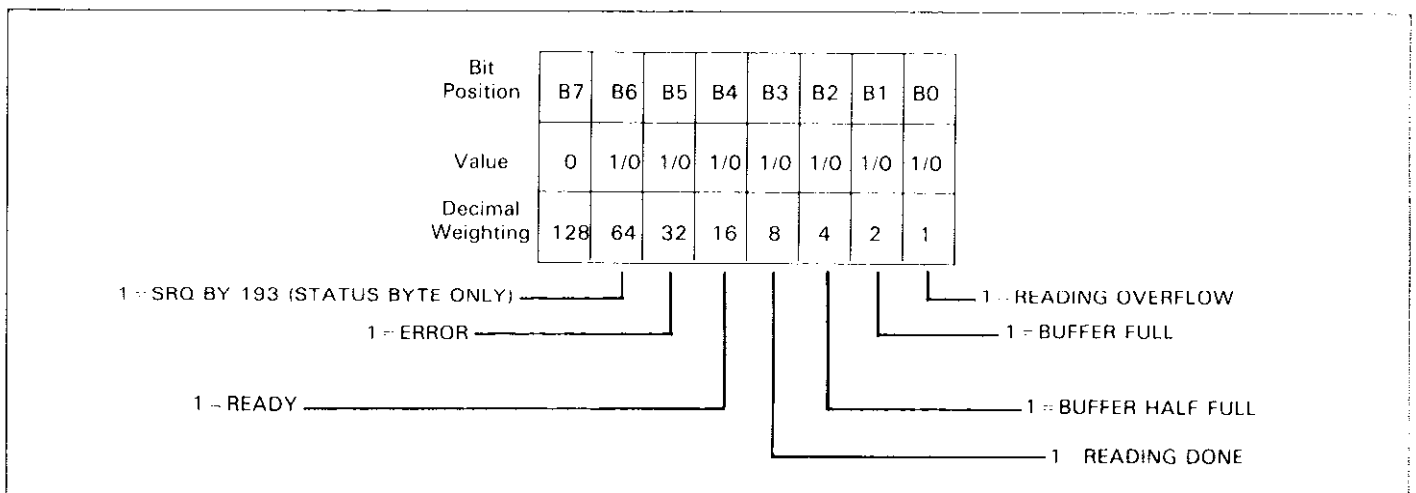

Figure 3-10. SRQ Mask and Status Byte Format
**SRQ Mask**—The Model 193 uses an internal mask to determine which conditions will cause an SRQ to be generated. Figure 3-10 shows the general format of this mask.
Status Byte Format—The status byte contains information relating to data and error conditions within the instrument. The general format of the status byte (which is obtained by using the serial polling sequence, as described in paragraph 3.9.8) is shown in Figure 3-10.